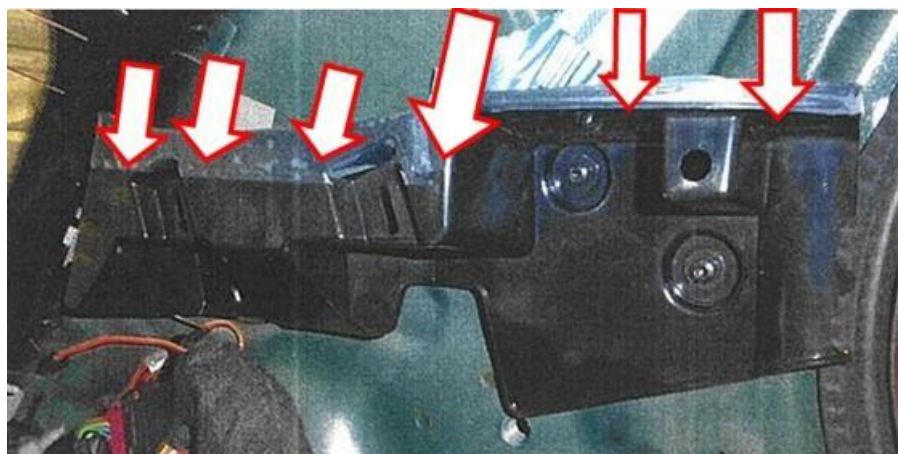

Figure 2
- Referring to Figure 2 - Remove the transparent tape from the upper C post bracket upper edge, making note of the original location points